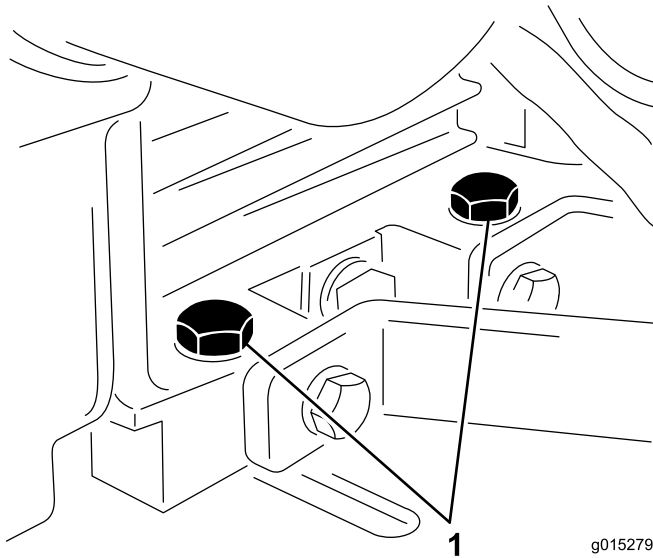

Figure 25
1. Loosen the engine mounting bolts (Figure 25).